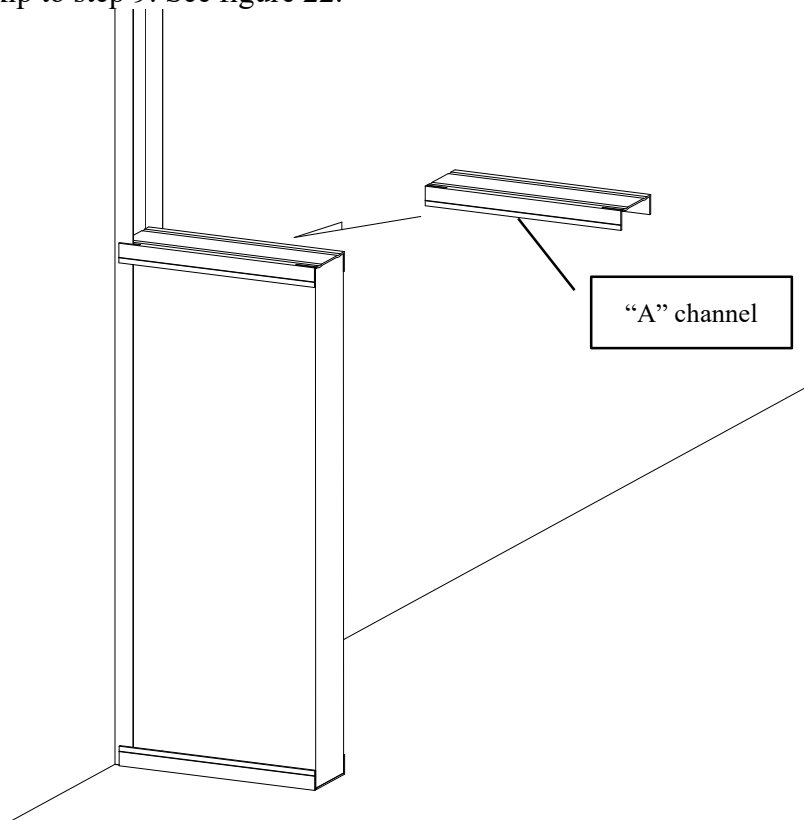

Figure 22
6. Place the next “A” channel on top of the filler panel from step 5. If this section of the front is a full height filler panel skip to step 9. See figure 22.